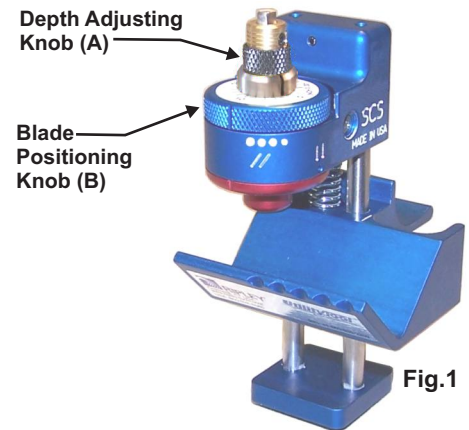
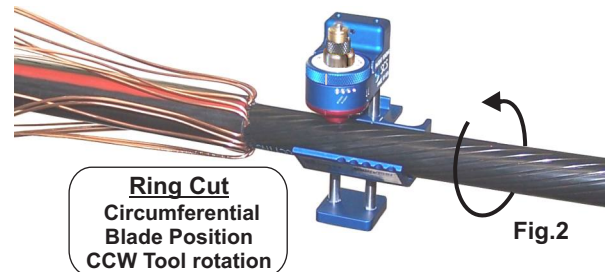

Fig.1
Fig.2
**2. Ring cut: (Fig.2)** Observe the blade position mark on the blade position knob **B**. Rotate the knob fully to the left. The tool is in the ring cut position when the mark is facing forward. (See Fig 1 and 2). Lower the jaw to open the tool and secure the tool on the cable at the termination point of the semi-con, as described in the preparation instructions. Rotate the tool 1 full turn counter clockwise around the circumference of the cable for a ring cut. If room allows, the use of the SCS-C stop clamp on the cable will help ensure a square cut is made.